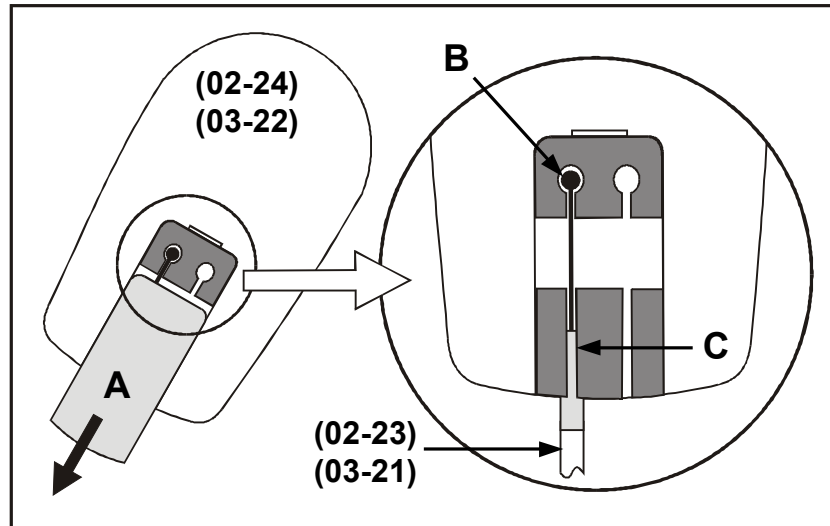

Figure 7-6 CPR cable fixing on backrest actuator
- c) Refer to Figure 7-6. Slide the cover (A) off the CPR cable housing on the side of the backrest actuator (02-24)/(03-22). Lift the ball end of the cable (B) out of the housing and remove the CPR release cable from the bed.
- a) Refer to Figure 7-6. Position the ball end (B) of the CPR release cable (02-23)/(03-21) in the circular recess of the cam lever (B). Locate the inner cable in the groove (C) with the outer cable held in place as shown. Refit the sliding cover (A).